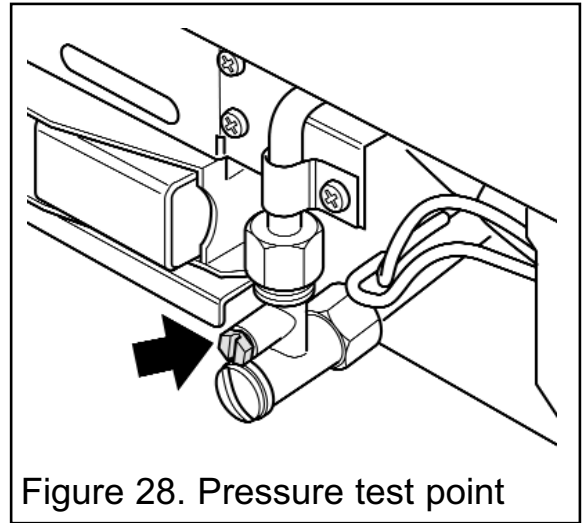

Figure 28. Pressure test point
**1.** Ensure that the fire is turned OFF before removing the pressure test point sealing screw. Check the inlet pressure by fitting a pressure gauge at the test point. The test point is on the inlet 'T' connector (See figure 28). Check the pressure with the appliance alight and set at maximum output.